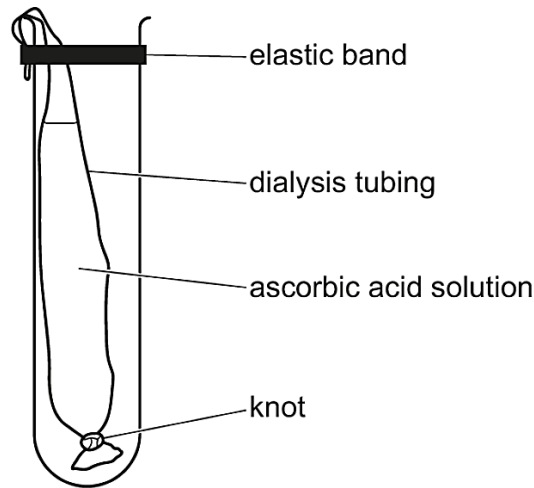

Fig. 1.1
- step 5 Carefully place the filled dialysis tubing bag into the large test-tube and secure position using an elastic band, as shown in Fig. 1.1.